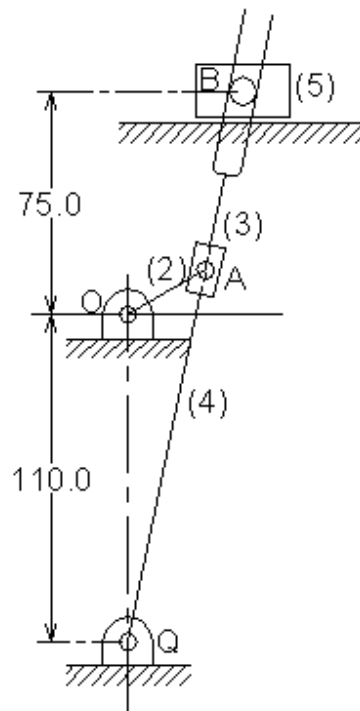

Figure P2.30
2.30 Determine the velocity and the acceleration of the ram B of the mechanism shown in Figure P2.30. The crank is 30 mm long and rotates at 300 rpm clockwise. At the shown position, the crank makes 30° .